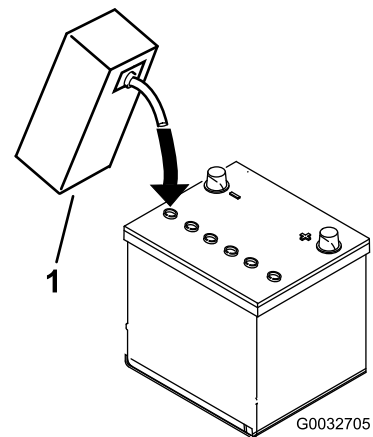

Figure 6
- Carefully fill each cell with electrolyte until the plates are covered with about 6 mm (1/4 inch) of fluid (Figure 6).
- Allow approximately 20 to 30 minutes for the electrolyte to soak into the plates. Fill as necessary to bring the electrolyte to within about 6 mm (1/4 inch) of the bottom of the fill well (Figure 6).